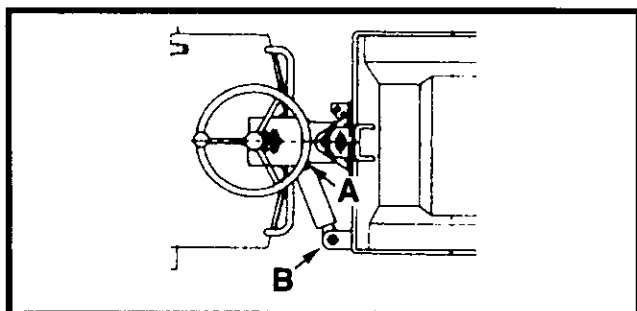

Figure 4-14 Steering Cylinder Pins and Bushings
7. Check wear conditions on the steering cylinder mounting pins and bushings (A, B, Figure 4-14). Any wear in the pins and bushings should be noted and proper personnel notified.